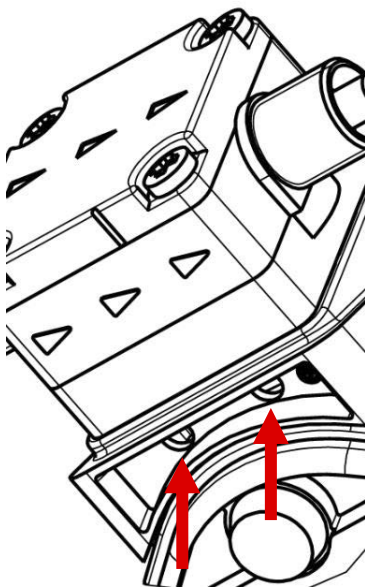

Fig. 1: Discharge outlet
- Never close the discharge outlet (see Fig. 1)
In the event that the pump diaphragm ruptures, the safety diaphragm prevents the transferred medium from penetrating into the pump. If the pump diaphragm ruptures, the transferred medium is channelled out of the pump through the discharge outlet (see Fig. 1).